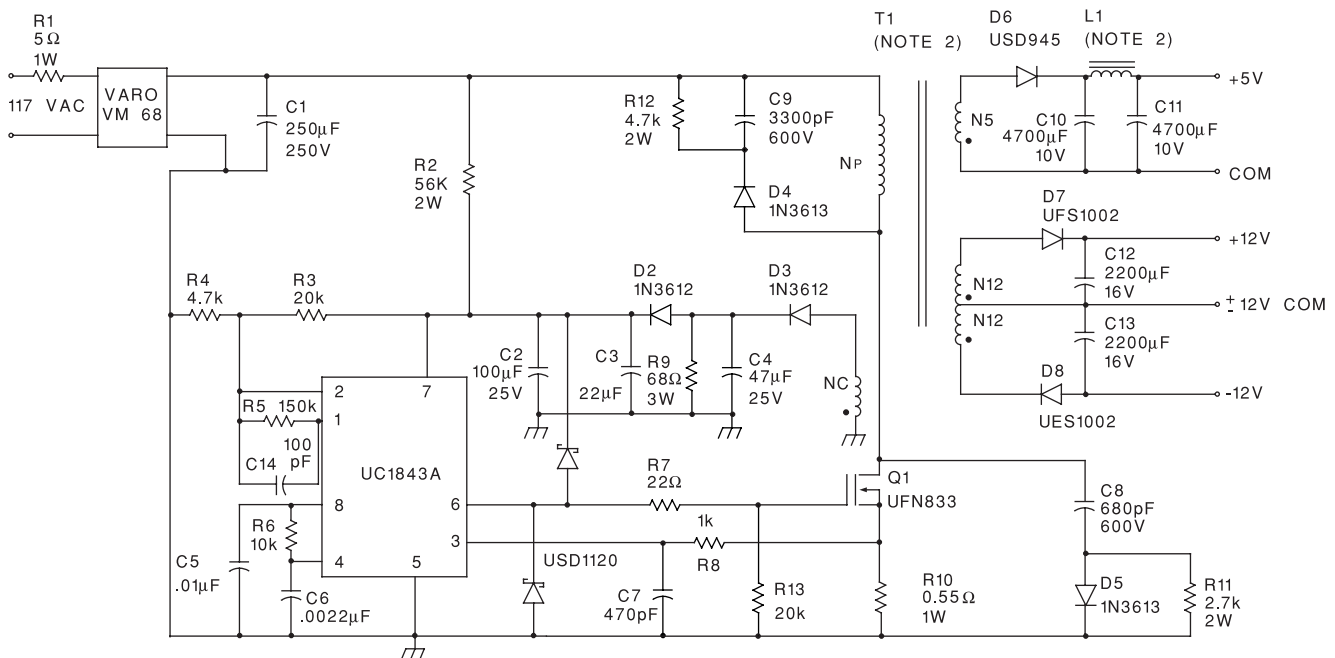

Figure 11. Typical Application Schematic
(1) See Figure 11 for reference.